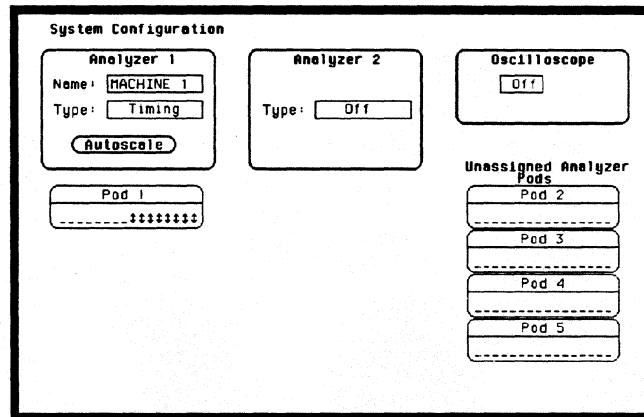

Figure 3-32. System Configuration for Glitch Test
3. Assign the pod under test to **Analyzer 1** in the **System Configuration** as in figure 3-32. Refer to steps a through c if you are unfamiliar with menus.
2. Assign the pod under test to **Analyzer 1** in the **System Configuration** as in the previous figure 3-32.